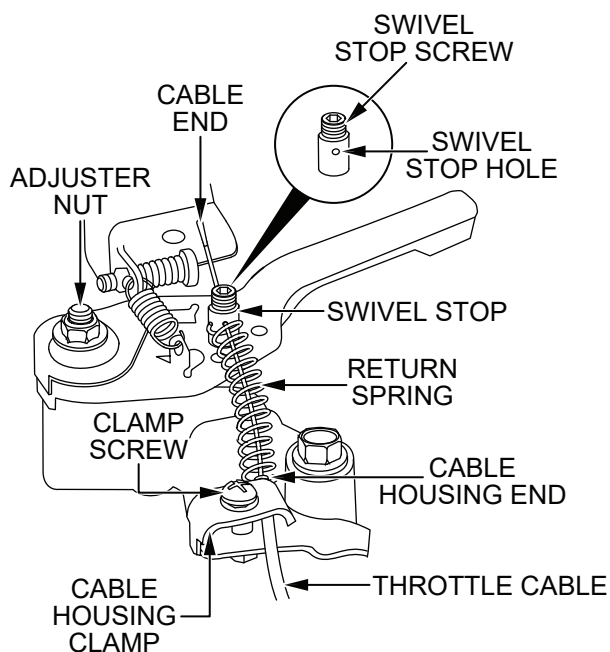

Figure 9. Throttle Cable Installation
4. Loosen the cable housing clamp screw and the swivel stop screw (Figure 9).
5. Place the return spring between the cable housing clamp and the swivel stop screw (Figure 9).
6. Feed the cable assembly through the cable housing clamp, return spring, and swivel stop hole, until the cable housing extends under the housing clamp to its far edge (Figure 9).